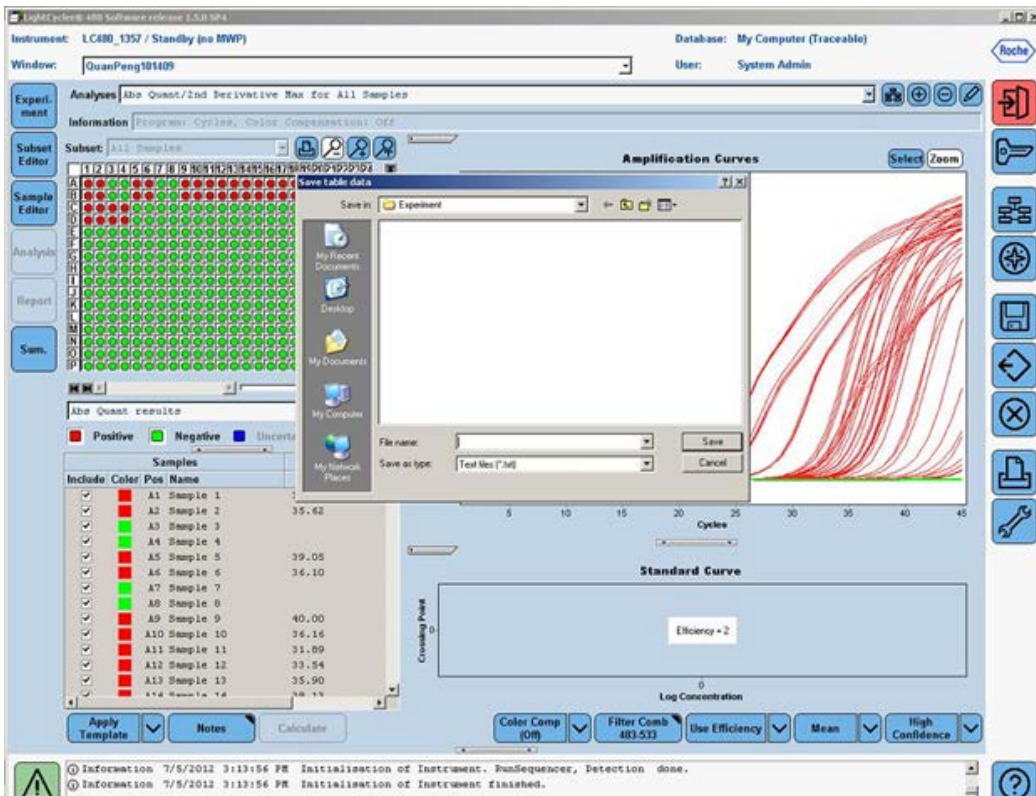

Figure 10. Exporting the Cp values.
- Once the Cp values are generated, move the mouse over to the "Samples" window and click to highlight the samples result table. Right click the table and select "Export" button to export the data. A "Save table data" dialog box will appear (Figure 10). Enter a filename to save the data as a text file. Then click the  button on the right panel to save the second derivative maximum analysis and the Cp values as part of the run file.